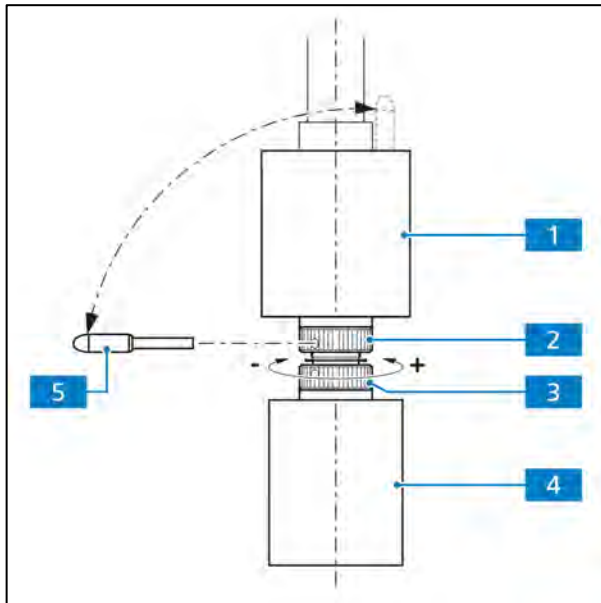

Fig. 3-9 Friction adjustment
The length of the X and Y drives can be extended by shifting the respective coaxial knurled knob (Fig. 3-9/4 or 1) axially within a range of approx. 15 mm.
(1) X drive
- Push the coaxial knurled knob for the X adjustment (Fig. 3-9/4) all the way to the bottom.
- Remove the supplied adjusting pin (Fig. 3-9/5) from the coaxial knurled knob for the Y adjustment (Fig. 3-9/1) and insert it into one of the holes of the lower hole nut (Fig. 3-9/3).
- Hold the coaxial knurled knob for the X adjustment (Fig. 3-9/4) and turn the hole nut with the adjusting pin clockwise (small friction adjustment: $-$) or counter-clockwise (large friction adjustment: $+$) until the desired freedom of movement has been achieved (see Fig. 3-9).
(2) Y drive
- Push the coaxial knurled knob for the Y adjustment (Fig. 3-9/1) all the way to the top.
- Insert the supplied adjusting pin (Fig. 3-9/5) into the hole of the upper hole nut (Fig. 3-9/2).
- Hold the coaxial knurled knob for the Y adjustment (Fig. 3-9/1) and turn the hole nut with the adjusting pin clockwise (small friction adjustment: $-$) or counter-clockwise (large friction adjustment: $+$) until the desired freedom of movement has been achieved.
- Re-insert the adjusting pin into the coaxial knurled knob for the Y adjustment (Fig. 3-9/1).